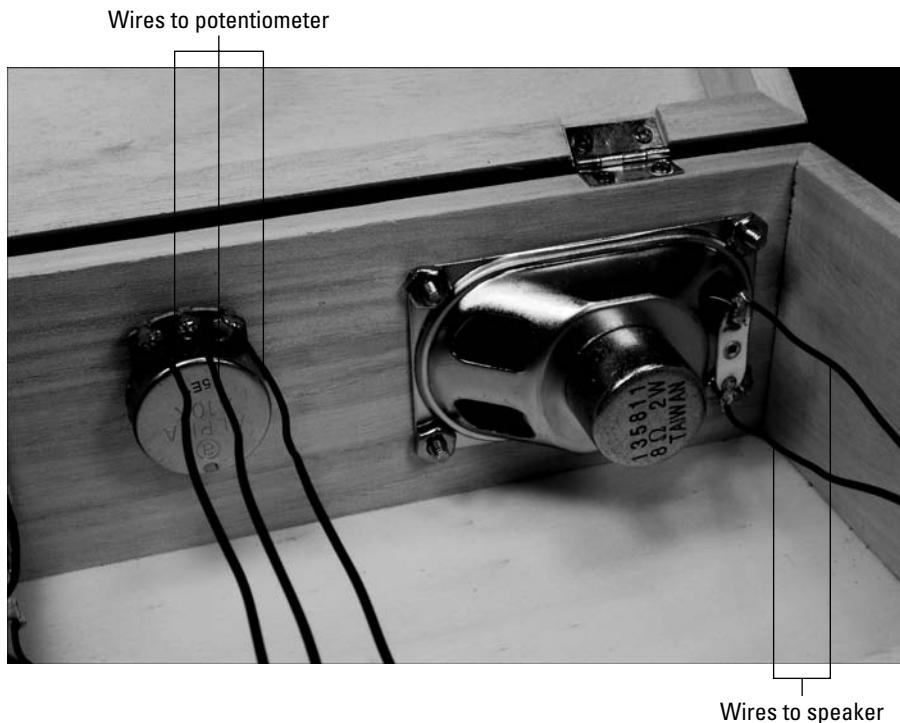

Figure 8-12:
13. **Solder 8" wires to each of the three potentiometer lugs, as shown Figure 8-12.**
14. **Solder 8" wires to each of the two speaker lugs, as shown Figure 8-12.**